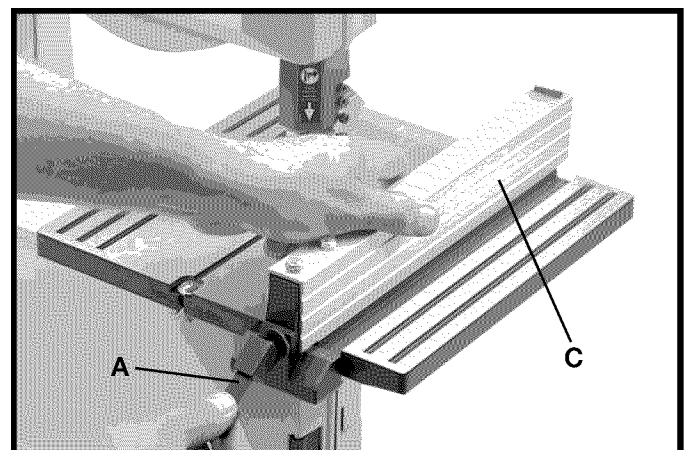

Fig. 15
2. Lower the front of rip fence (C) Fig. 15, against the table and push down on locking lever (A). **NOTE:** Clamping action on the rip fence (C) Fig. 15, can be tightened or loosened by lifting locking lever (A) and rotating lever clockwise or counterclockwise as necessary until firm clamping action is accomplished. Rip fence (C) can be positioned either to the right or left of the saw blade.